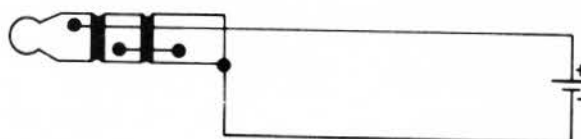

Figure 3. Connections for Calibration Voltage Control Adjustment.
a. Connect a laboratory type cadmium cell (1.019 volts) to the INPUT jack on the Preamplifier panel as shown in figure 3.